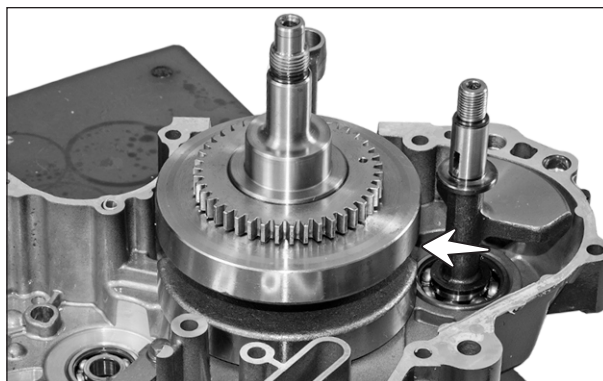

Fig. 3.153
- Pull out crankshaft assembly from the crankcase assembly LH by gently tapping it from the other side. (Fig. 3.153)